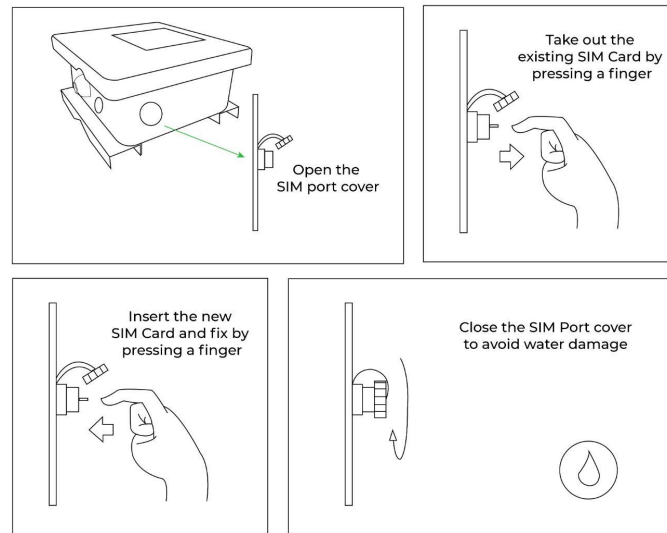

Figure 4.18 SIM card replacement
- Step 1** Ensure that you have a working nano-SIM card that is activated by the carrier. Open the cap of the SIM card holder (See fig 4.18)